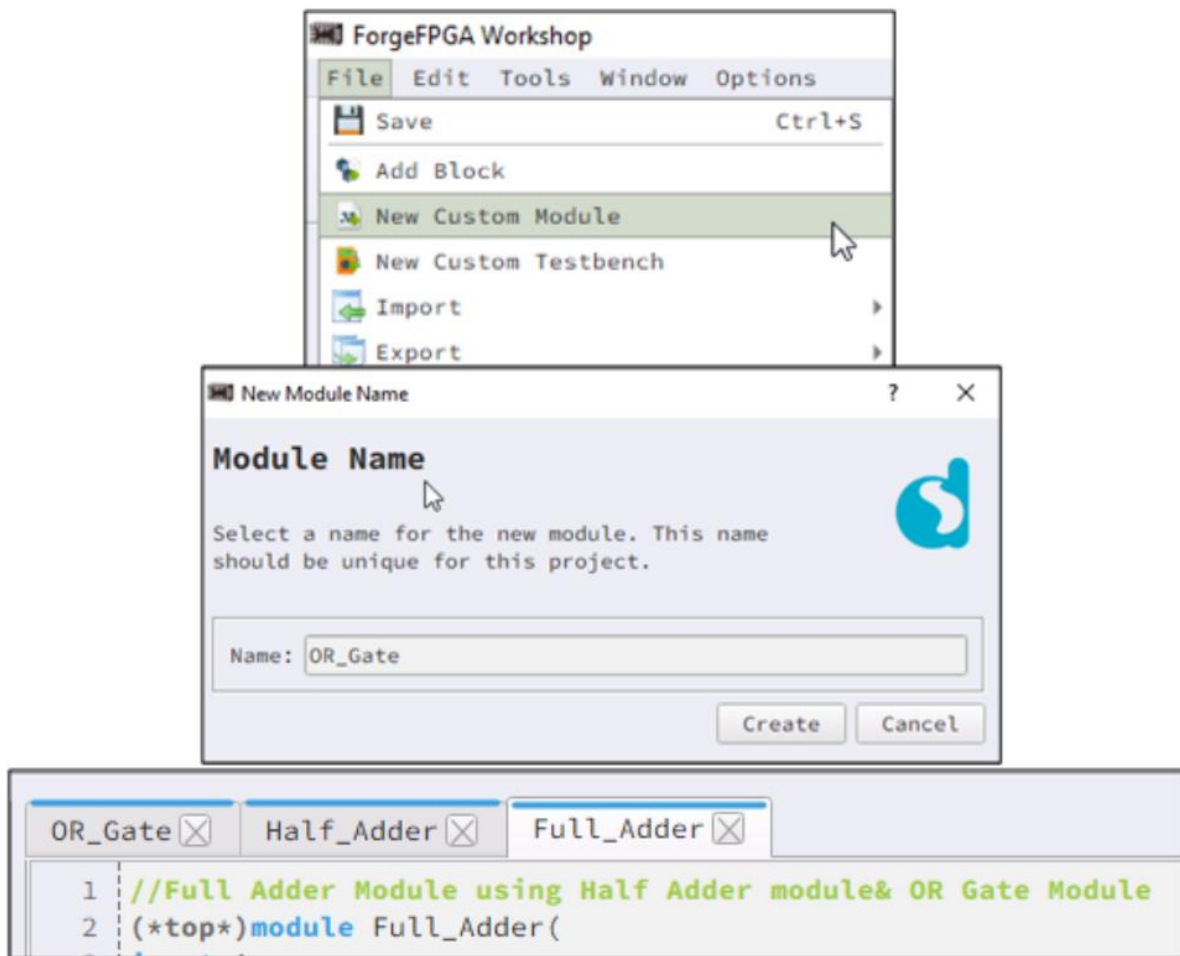

Figure 6: Steps to Launch Custom Module
2. Create 3 different Custom Modules called OR_Gate , Half_Adder & Full_Adder and enter the respective Verilog Codes in the HDL Editor for each module. (see Figure 6).